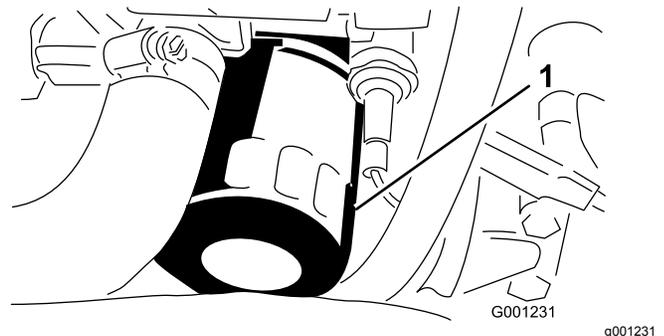

Figure 51
6. Remove and replace the oil filter (Figure 51).